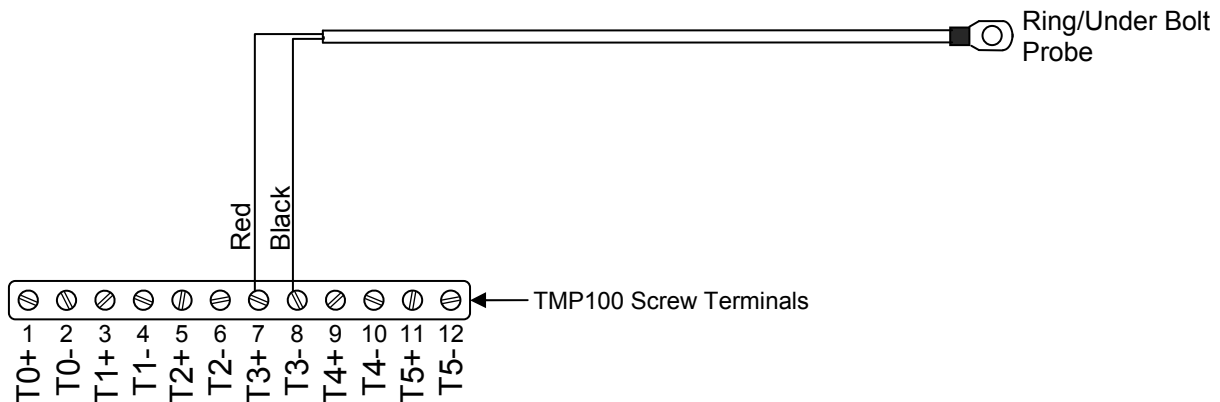

Figure 1 – Wiring Diagram
Please follow these instructions to connect the TR3K to the NMEA 2000[®] network via a Maretron TMP100 Temperature Module. The wiring diagram appears in Figure 1 below. The diagram shows a connection to channel #2, but connections to other channels are similar. Please note that the TR3K may be connected only to channels #2, #3, #4, and #5. It may not be connected to channels #0 and #1.
2. The TR3K cable is 10 ft. (3.05m) long, and contains one red and one black wire. The cable may be extended with the understanding that the TR3K uses a 3K Ω nominal thermistor, and that the resistance of the extension cable will introduce an error which is largest at higher temperatures. Connect the black wire to the appropriate Tx- terminal on the TMP100 as shown in Figure 1 below.
3. Connect the red wire to the appropriate Tx+ terminal on the TMP100 as shown in Figure 1 below.
Please follow these instructions to connect the TR3K to the NMEA 2000[®] network via a Maretron DCM100 DC Monitor. The wiring diagram appears in Figure 1 below.
2. The TR3K cable is 10 ft. (3.05m) long, and contains one black and one red wire. The cable may be extended with the understanding that the TR3K uses a 3K Ω nominal thermistor, and that the resistance of the extension cable will introduce an error which is largest at higher temperatures. Connect the red wire to the TA terminal on the TMP100 as shown in Figure 1 below.
3. Connect the black wire to the TB terminal on the DCM100 as shown in Figure 1 below.